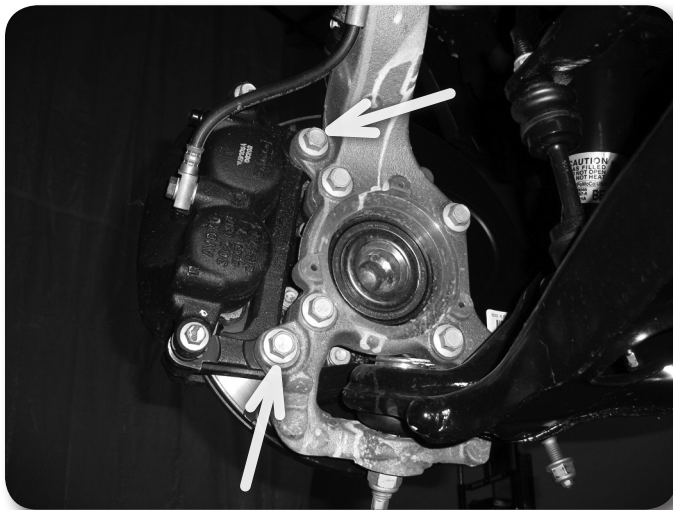

Figure 1
5. Remove the brake caliper anchor bracket bolts and remove the caliper from the knuckle **Figure 1**. Hang the caliper out of the way. Do not let the caliper hang by the brake hoses.